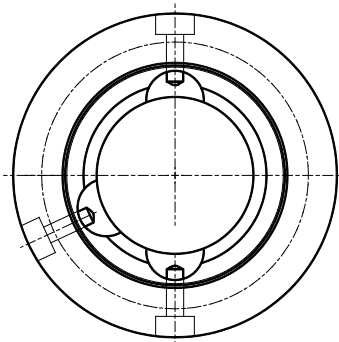

Fig. 4: Position of the oil filling screw
- Position the clutch coupling so that the oil filling screw around the circumference of the cover or flange are in the following position: two screws that are opposite each other must be vertically in line, the third screw is positioned from the side below the center (see Fig. 4).